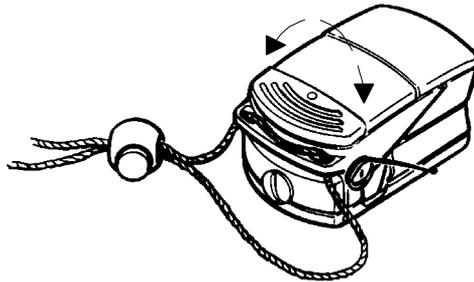

Figure 2. Lanyard and lock.
1. Thread the ends of the lanyard through the lanyard holes as shown below in Figure 2.